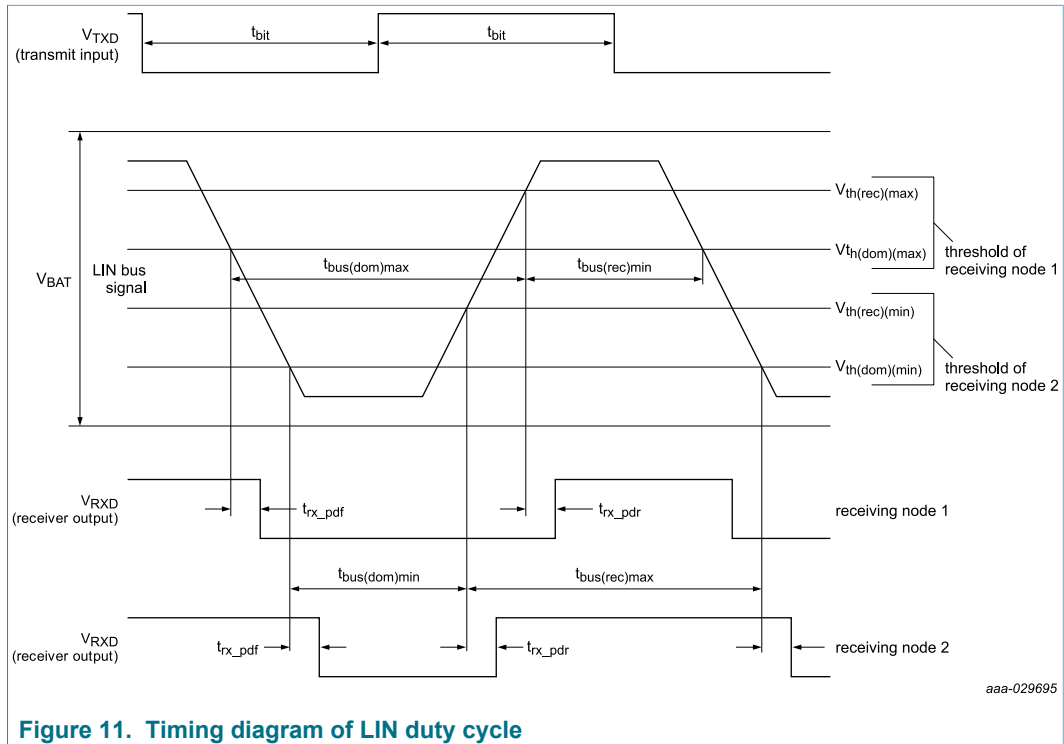

Figure 11. Timing diagram of LIN duty cycle
- [3] See timing diagram in Figure 11